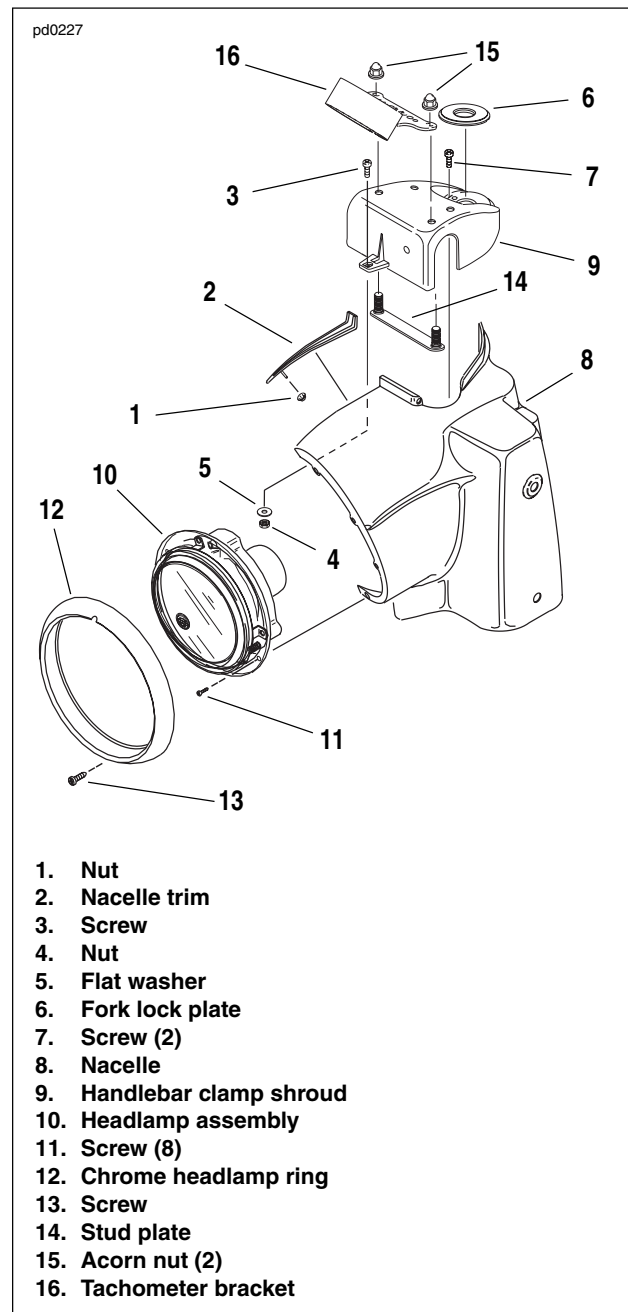

Figure 2-10. FLHP Headlamp Nacelle
1. See Figure 2-10. Remove screw (13) securing chrome ring (12) to headlamp nacelle (8). Remove chrome ring.
2. Remove eight fasteners (11) securing headlamp assembly (10). Squeeze two external tabs (if present) to remove wire connector at back of headlamp bulb. Remove headlamp assembly from vehicle.
13. See Figure 2-10. Install two screws (7) to handlebar clamp shroud and tighten to 10-20 **in-lbs** (1.1-2.3 Nm). Gently press fork lock plate (6) into place on handlebar clamp shroud.
14. Tighten front handlebar clamp shroud nut (4) to 10-20 **in-lbs** (1.1-2.3 Nm).
16. Install nacelle trim (2). Install nut (1) (inside nacelle) securing nacelle trim. Tighten to 15-20 **in-lbs** (1.7-2.3 Nm).
18. Secure chrome ring (12) to headlamp nacelle with screw (13).